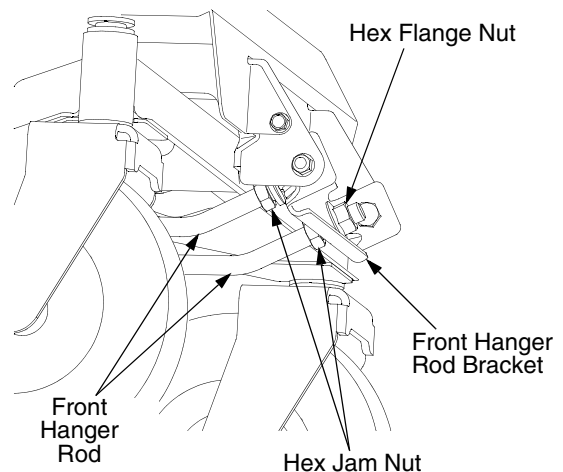

Figure 30
- From the front of the tractor, on the rearward side of the front hanger rod bracket, locate the two hex jam nuts on the deck front hanger rod. See Figure 30.
- If the front of the deck was too low, turn the hex flange nuts on the ends of the front hanger rod clockwise to raise the front of the deck. See Figure 30.